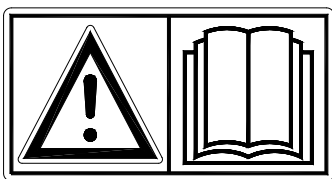

Figure 1
**Read and understand** (Figure 1) the manual *before* you start using the Redexim machine.